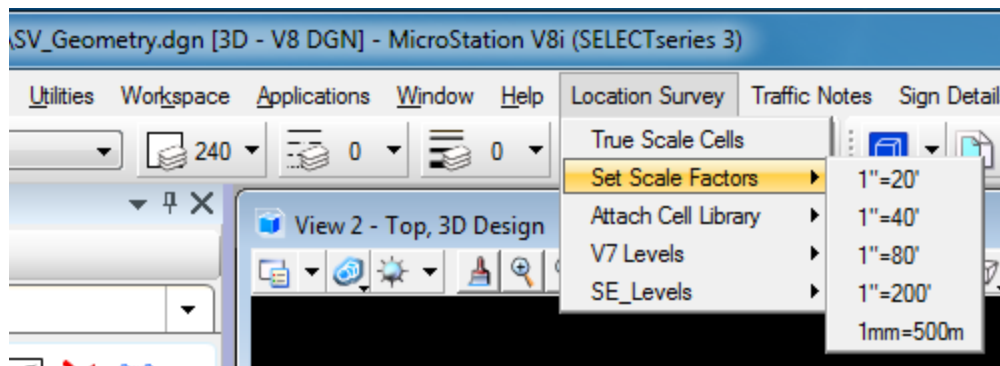

Figure 8-4 MicroStation Menu Pull Down Tool
- A. Select the Location Survey Menu Bar located next to the main MicroStation tools. Select **Set Scale factors** and select the desired scale. As shown in Figure 8-4.